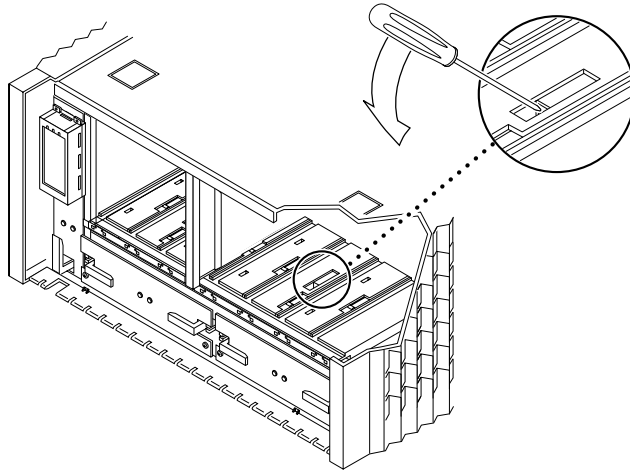

FIGURE 7-14 Releasing a Lower Disk Drive Guide
5. Use the flat-head screwdriver to release both lower disk drive guides (FIGURE 7-14).